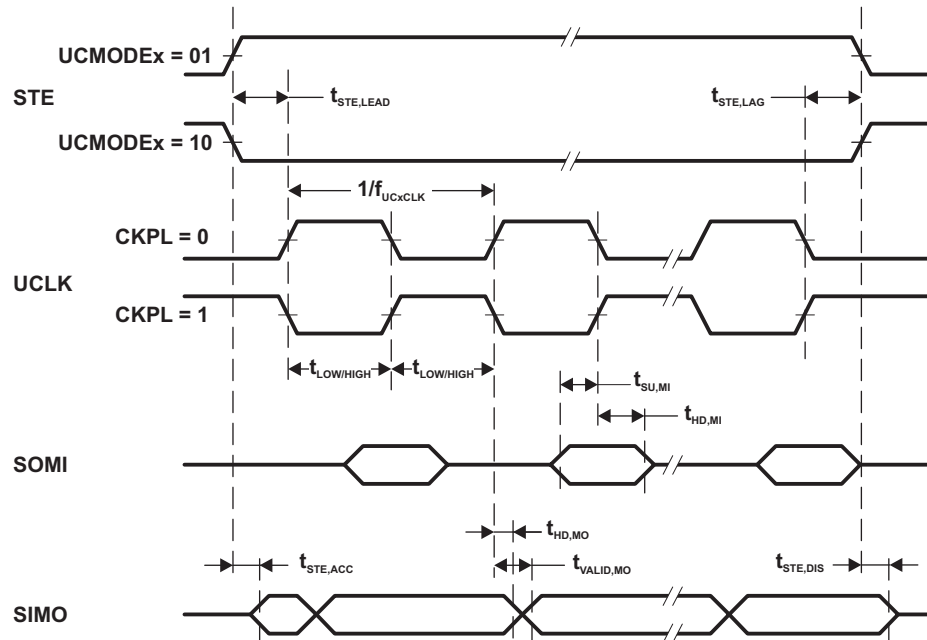
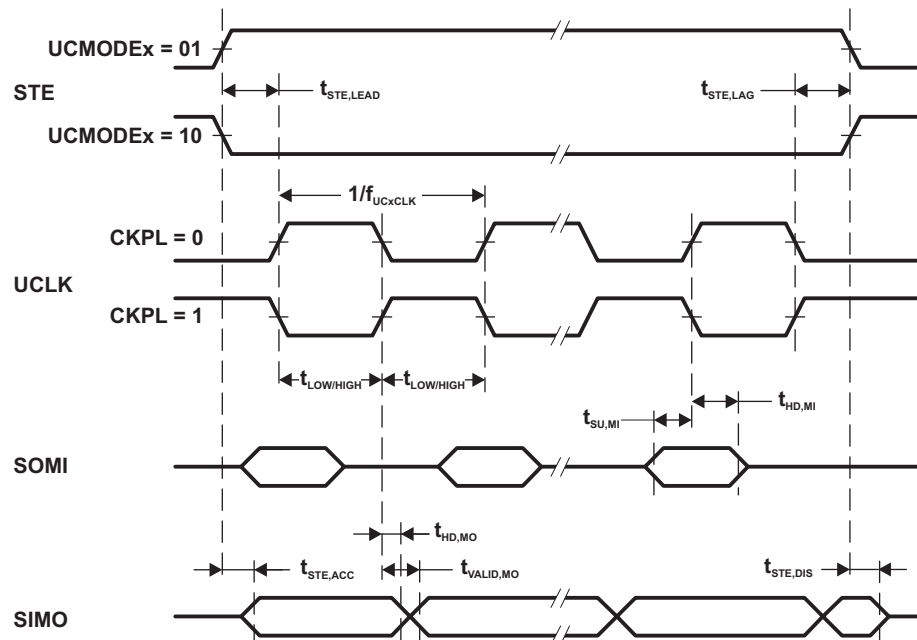

Figure 5-15. SPI Master Mode, CKPH = 0
Figure 5-16. SPI Master Mode, CKPH = 1
- (1) $f_{UCxCLK} = 1/2t_{LO/Hi}$ with $t_{LO/Hi} = \max(t_{VALID,MO(eUSCI)} + t_{SU,SI(Slave)}, t_{SU,MI(eUSCI)} + t_{VALID,SO(Slave)})$. For the slave parameters $t_{SU,SI(Slave)}$ and $t_{VALID,SO(Slave)}$, refer to the SPI parameters of the attached slave.
- (2) Specifies the time to drive the next valid data to the SIMO output after the output changing UCLK clock edge. Refer to the timing diagrams in Figure 5-15 and Figure 5-16.
- (3) Specifies how long data on the SIMO output is valid after the output changing UCLK clock edge. Negative values indicate that the data on the SIMO output can become invalid before the output changing clock edge observed on UCLK. Refer to the timing diagrams in Figure 5-15 and Figure 5-16.